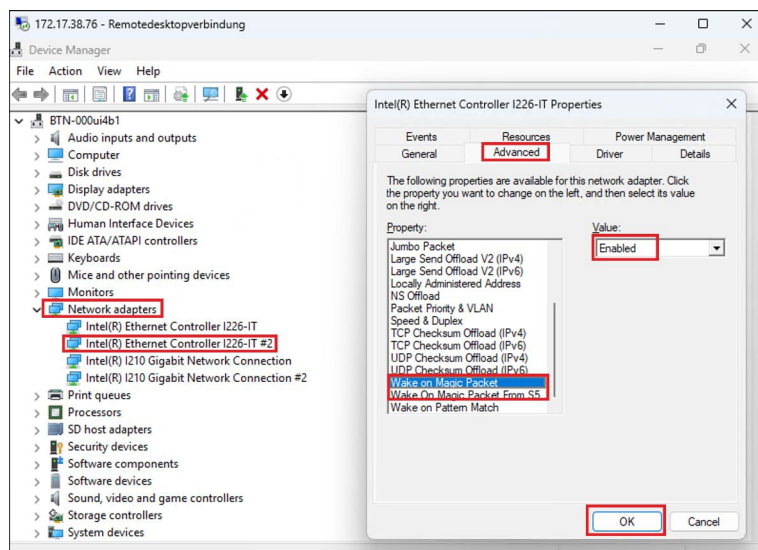

Fig. 16: Activate function
2. Lift the PC far enough so that the fastening screws slip into the keyholes (see fig. 16).